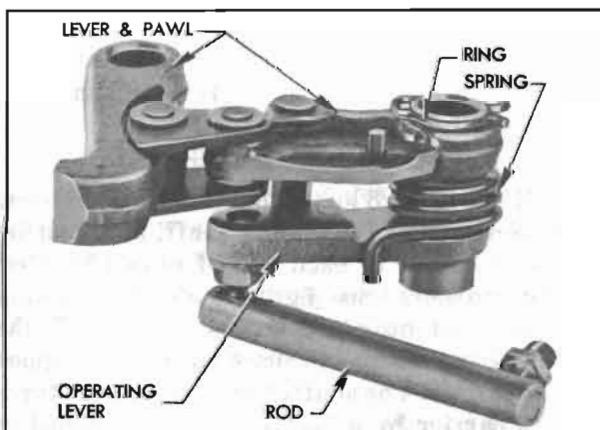

Figure 5-80—Parking Lock Pawl and Lever Assembly
5. If any parking lock parts need to be replaced, remove the retainer and separate the parts. When reassembled, the parts must be located as shown in figure 5-80.